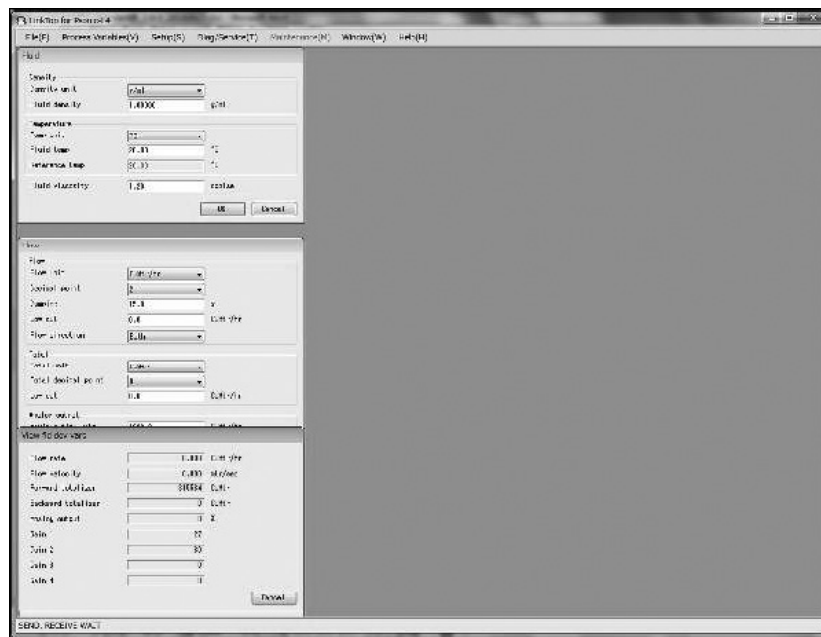

Fig. 3-82
- (2) If "TileHorizontal" is selected, the windows are displayed vertically as shown in Fig. 3-82.